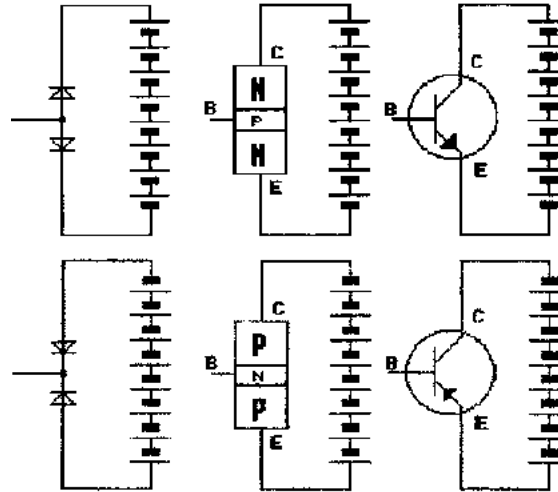

fig. 123
1. If a transistor is connected to a voltage-source as shown in fig. 123 it will not conduct any current, because one of the PN-junctions is always biased in reverse